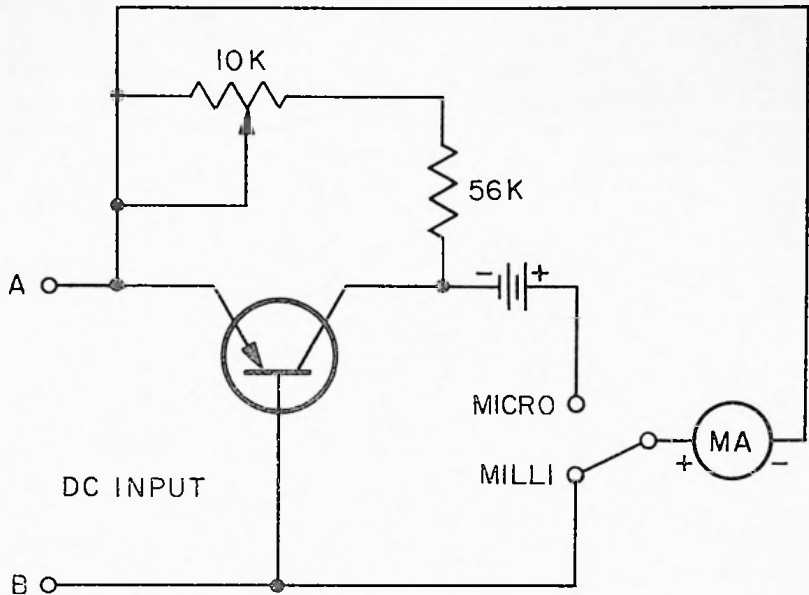

Figure 13. Two-range microammeter circuit.
a. Microammeter. Figure 13 shows the circuit for a two-range microammeter which employs a transistor as a current amplifier. With unamplified input currents, readings between 0 and 1 milliamperes can be obtained on the 0-1 milliamperes meter shown in the circuit. When the input is shunted through the transistor amplifier, measurements between 0 and 100 microamperes can be obtained on the same meter. This provides the circuit with its dual-range capabilities. The amplifier stage has an overall gain of 10, being slightly less than 10 near the bottom of the scale and slightly more than 10 near full scale. To compensate for this difference, the variable 10K resistor is adjusted for an exact indication when a reading of 0.8 is registered on the meter scale. This adjustment permits accurate meter readings over almost the entire range. For microammeter readings, "A" is the positive input
130. In the ammeter circuit shown in figure 13 of the Attached Memorandum, the negative input terminal for the MICRO and MILLI switch positions, respectively, is